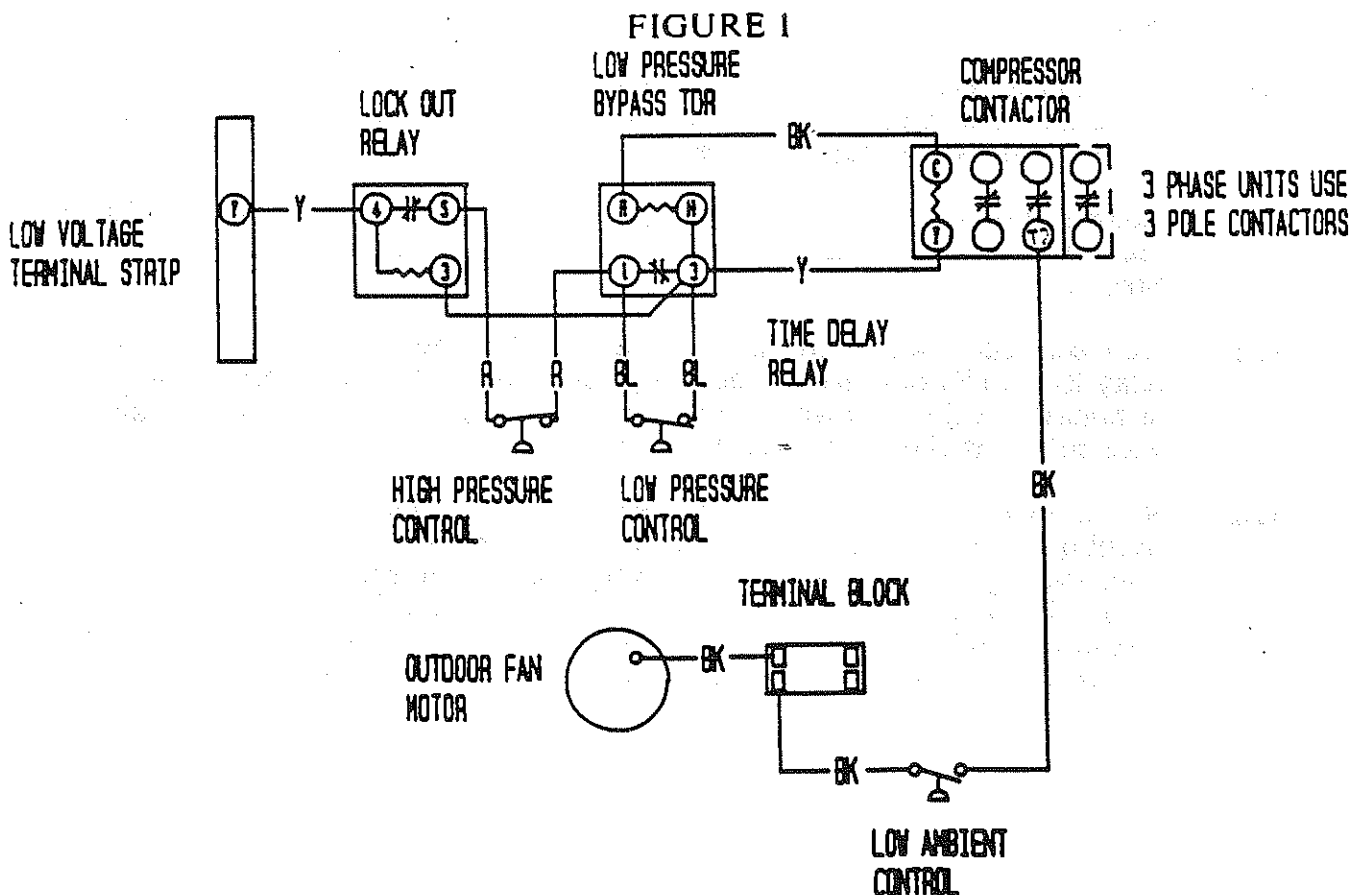

FIGURE 2
- Step 7. Disconnect black high voltage outdoor motor lead from compressor contactor and reconnect to terminal block. Route wires through wire holder as shown in Figure 2, Step 7.
- Step 8. Route low ambient control wires up through the bushing in the bottom of the control panel. Replace sealing compound after routing wires through the bushing. Route the wires through the wire holders in the control panel as shown in Figure 2. Connect the low ambient control wires between the terminal block and T2 of the compressor contactor. See Figure 2, Step 8.